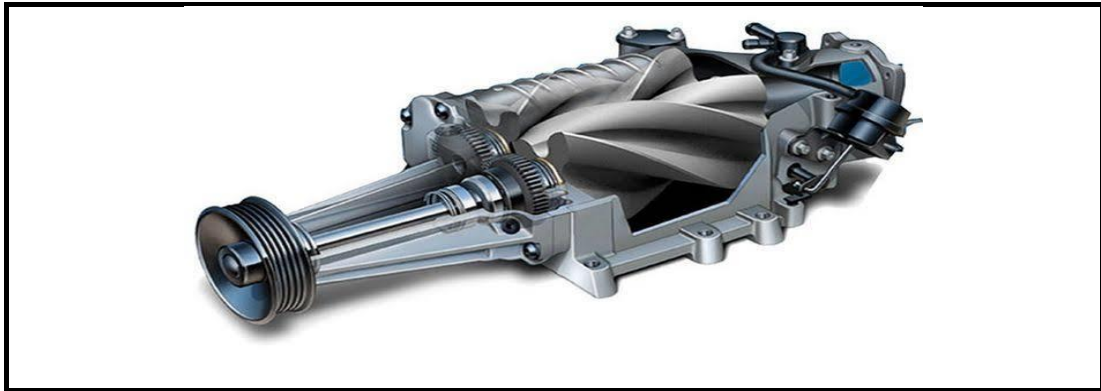

FIGURE 4.7
- (1)
4.7 FIGURE 4.7 shown below is a supercharger.